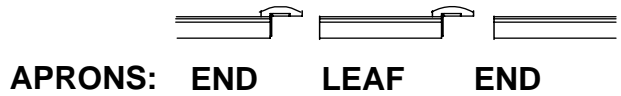

Fig. 3
3. To help position the Leaf Aprons (Fb) in their proper locations, the leaves and leaf aprons have been stamped with matching letters (A/A, B/B,). See Figures 3 and 3a. Insert three #8 x 1-1/4" Pan Head Screw (H) through the pocket drilled holes in the Leaf Apron (Fb) and into the predrilled holes in the Leaf (Ab) and fasten securely. To increase support of the leaf aprons, fasten a Brass Angle Brace (I) just to the left or right of the center hole of the aprons using two #10 x 3/4" Brass Oval Head Screws (J) in each Angle Brace. See Figure 3a.